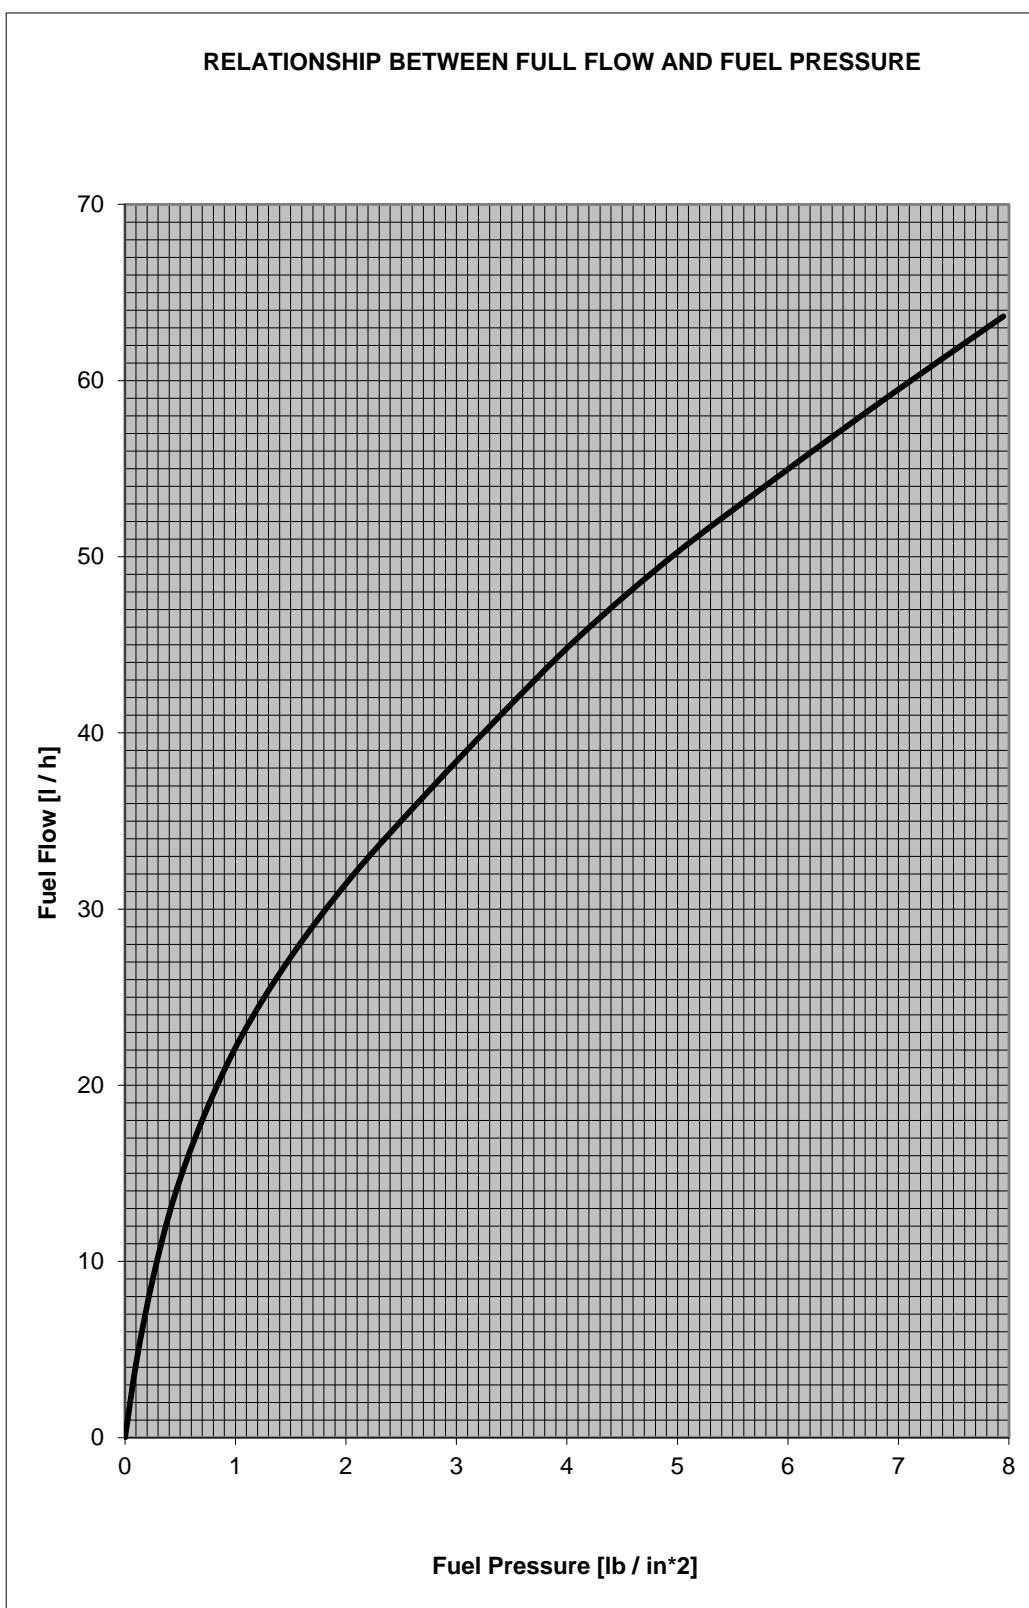

Figure 3: Fuel Flow vs Fuel Pressure
The relationship between fuel flow and altitude for maximum power (i.e. maximum take-off and maximum continuous) with “best power” mixture is marked on the fuel flow gauge. The relationship between fuel pressure and altitude for this condition is given in Figure 4-1 on Page 4-7 in Flight Manual doc. No.SH.3.1 and the relationship between fuel flow and fuel pressure in Figure 3.
(2) Mixture: Obtain fuel pressure from Figure 8-3 in Flight Manual doc. No.SH.3.1 appropriate to rotational speed, mixture condition and power condition. Set mixture to give the fuel flow given in Figure 3 appropriate to this fuel pressure.